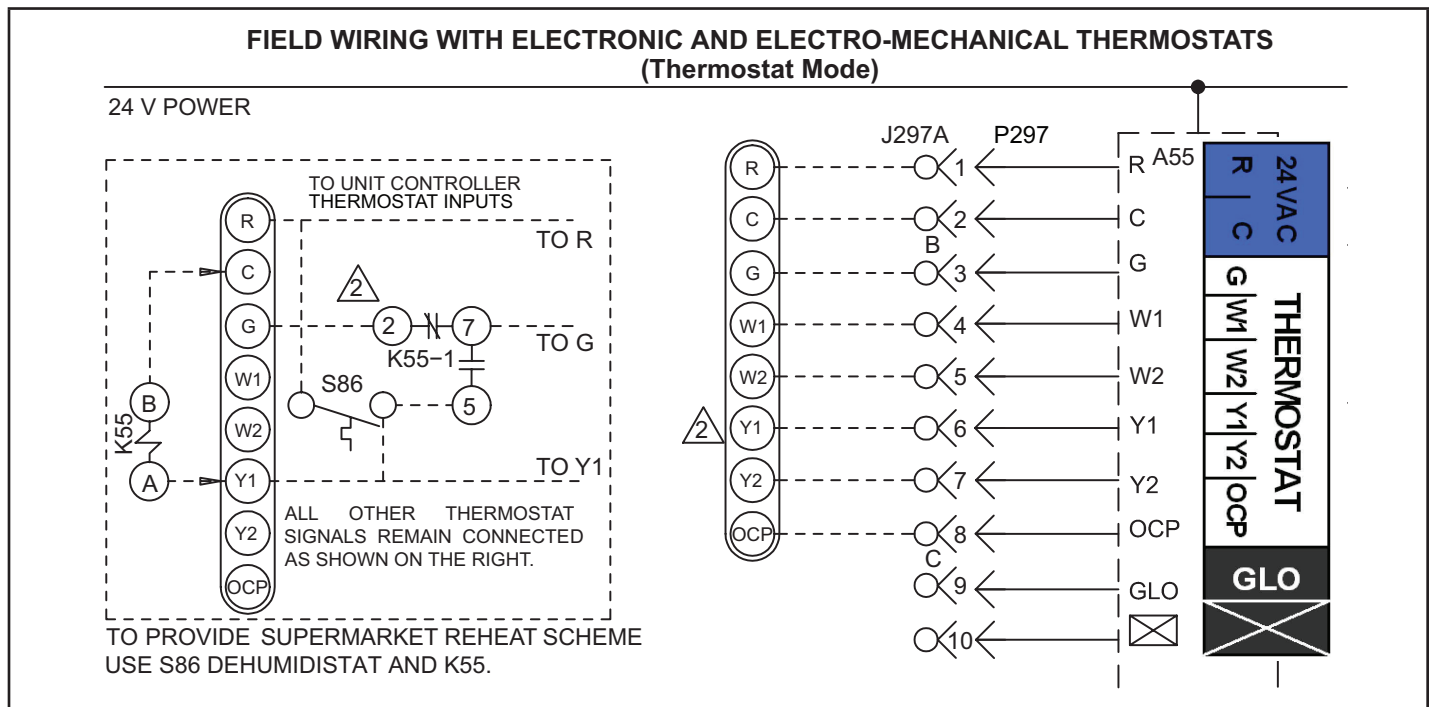
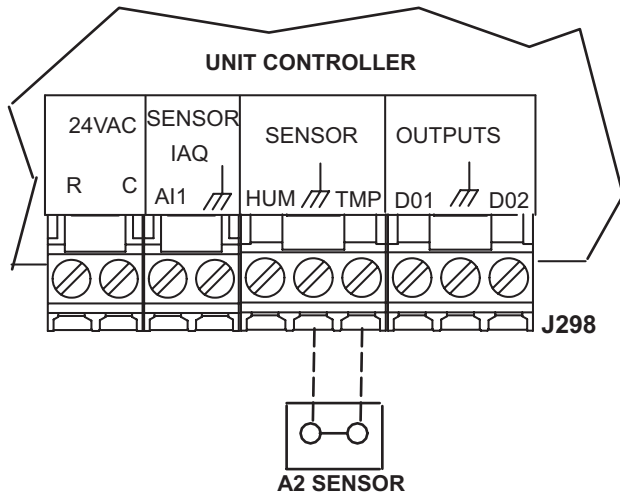
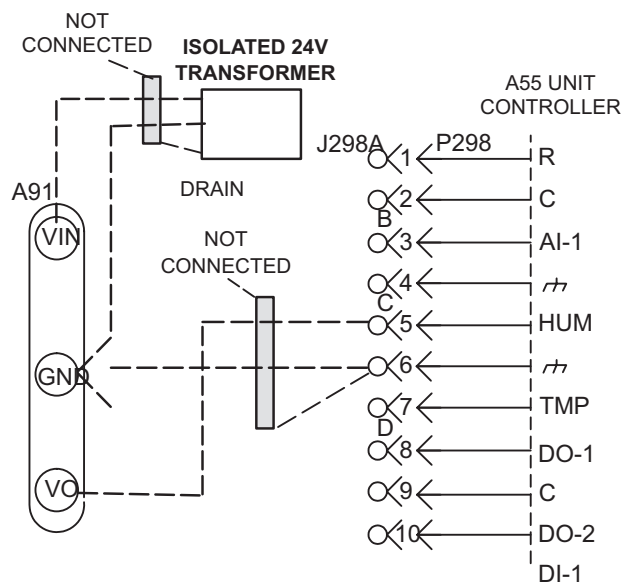

FIGURE 14
FIGURE 15
FIGURE 18
- 4 - Wire as shown in FIGURE 14 for electro-mechanical and electronic thermostats. If using other temperature control devices or energy management systems see instructions and wiring diagram provided by manufacturer.
The Unit Controller will operate heating and cooling based on the Unit Controller internal setpoints and the temperature from the A2 zone sensor. An optional Network Control Panel (NCP) can also be used to provide setpoints. A thermostat or return air sensor can be used as a back-up mode. Make zone sensor wiring connections as shown in FIGURE 15.
- 2 - Make wiring connections as shown in FIGURE 14 for Thermostat Mode or FIGURE 15 for Zone Sensor Mode. In addition, connect either a humidity sensor or a dehumidification input. See FIGURE 16 or FIGURE 18 for humidity sensor wiring or FIGURE 17 for dehumidification input wiring.
Use a local, isolated 24VAC transformer such as Lennox cat #18M13 (20VA minimum) to supply power to RH sensor as shown in FIGURE 18. Use two shielded cables containing 20AWG minimum, twisted pair conductors with overall shield. Belden type 8762 or 88760 (plenum) or equivalent.